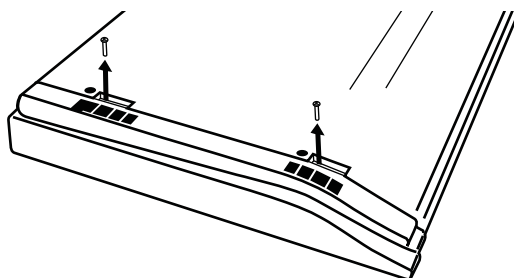

Figure 2-3 Removing screws from the bottom panel
1. On the MC Mix, use a #2 Phillips screwdriver to remove the two silver screws (Figure 2-3).